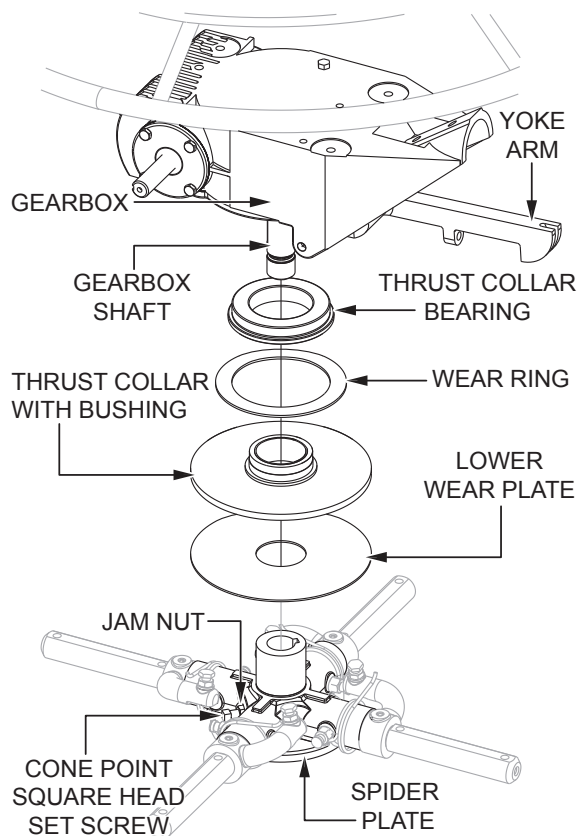

Figure 61. Spider Removal
1. Locate and loosen the cone point square head set screw and attached jam nut on the side of the spider assembly (Figure 61).